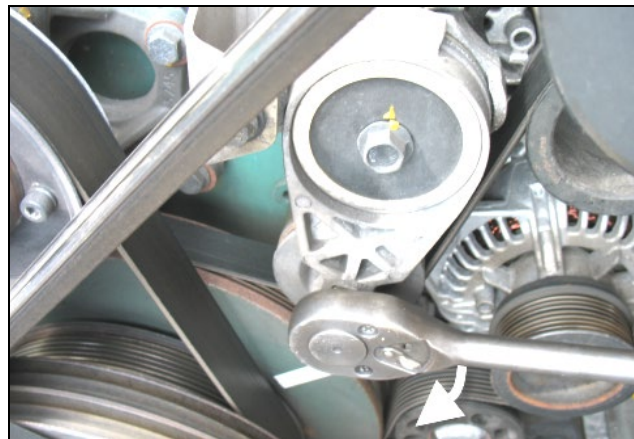

FIG.6 1/2" RATCHET USED TO TWIST TENSIONER ARM
3. Insert a 1/2" ratchet into the alternators automatic belt tensioner opening (Fig.6).
4. Twist the tensioner arm and slide the alternator belt under the tensioner pulley (Fig.6).